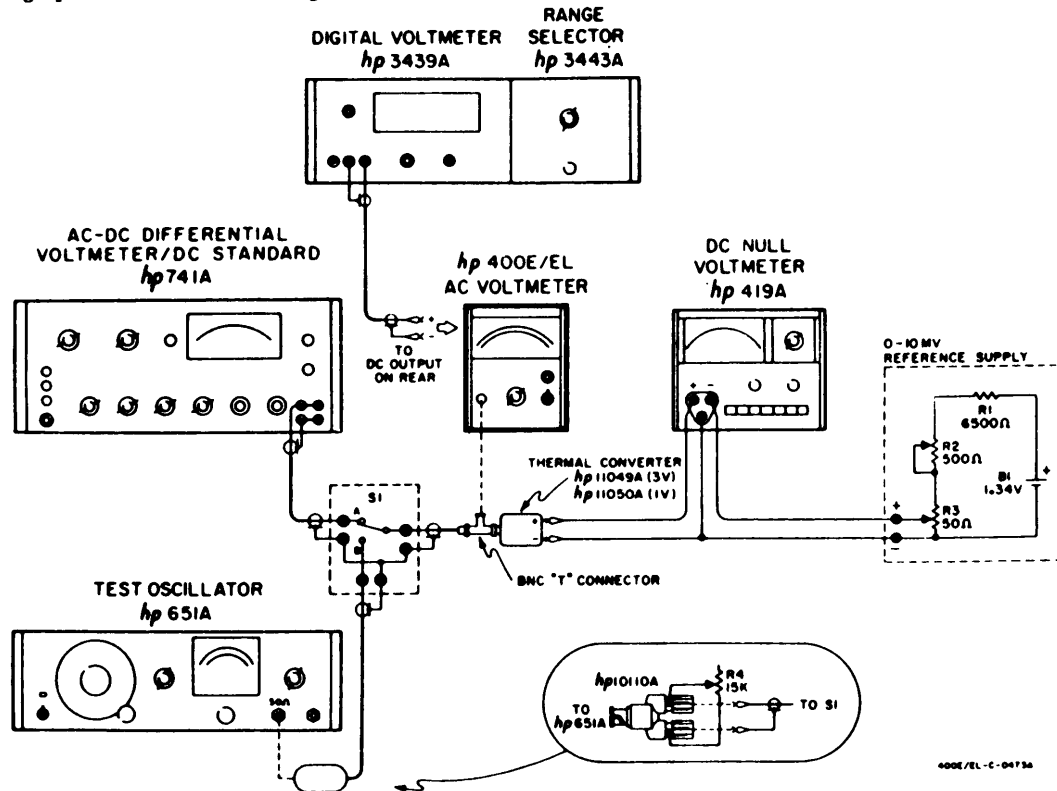

Figure 5-1. Accuracy and Frequency Response Test Setup
5-11. The test setup in Figure 5-1 uses a thermal converter with a null circuit to adjust the frequency re-
sponse of the test oscillator to within 0.2% over its entire band. Construct the 0 to 10 mv Reference Supply shown in Figure 5-1 and allow it at least 24 hours to stabilize.
- Connect the dc standard, the 400E/EL, the null voltmeter, the reference supply, and a 3 volt thermal converter as shown in Figure 5-1. Set switch S1 to position A connecting the dc standard output to the thermal converter input. The reference supply and the thermal converter are sensitive to variations in ambient temperature. Ensure that the ambient temperature variations are less than  $\pm 2.0^{\circ}\text{C}$ .
Paragraphs 5-16 to 5-17 and Figure 5-1
- a. Set switch S-1 in figure 5-1 to position B, connecting the test oscillator to the thermal converter input. Connect the digital voltmeter to the 400E/EL DC OUTPUT terminals.
- c. Using the oscillator amplitude control as coarse adjustment and resistor R4 (Figure 5-1) as fine adjustment, increase the oscillator amplitude until the thermal converter output nulls the reference supply. Observe the 400E/EL meter indication and dc output.
- a. Connect the dc standard, 3 volt thermal converter, dc null voltmeter, and reference supply as shown in Figure 5-1.
- c. Disconnect the dc standard, and connect the test oscillator, the digital voltmeter, and the 400E/EL as shown in Figure 5-1.
- a. Calibrate the reference supply in Figure 5-1 with a 1 volt thermal converter according to the steps in Paragraph 5-10.